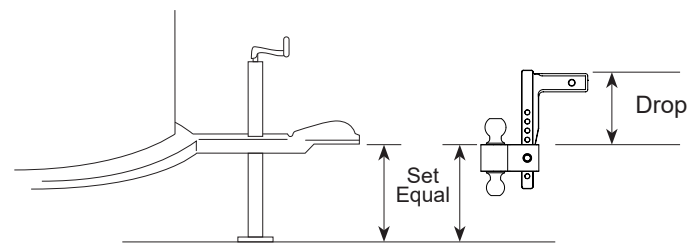

Figure 2
4. Measure from the ground to the bottom of the coupler on the trailer, then lock the ball holder into place on the drop bar at that height, with the correctly sized hitch ball for your trailer coupler facing up. **See Figure 2.** You may need to invert the drop bar and use it in the rise position to reach the correct ball height for your particular trailer.
*Figure 2: Top of ball holder height should initially be set equal to the bottom of the coupler socket height with the trailer parallel to ground, then adjusted upward to compensate for the distance it drops when the tongue weight is being carried.*